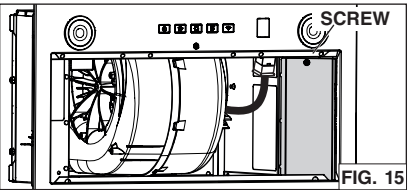

FIG. 15
3. Disassemble the electrical compartment cover (grey part in FIG. 15) from inside the unit by removing its retaining screw. Remove the parts bag behind the cover. Set aside the parts bag and the cover along with its screw.